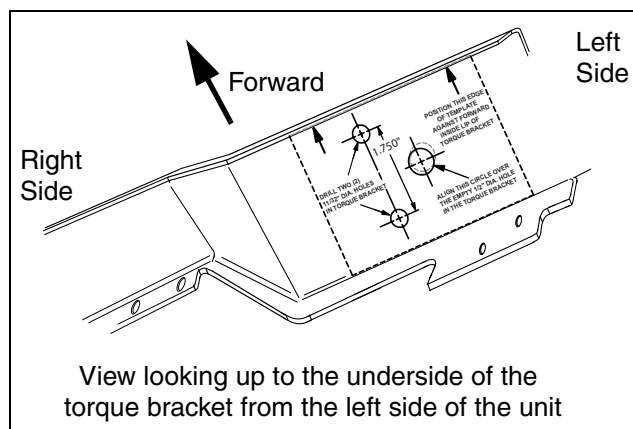

FIGURE 3
9. Refer to Figure 3. From the left underside of the unit locate the torque bracket.
10. Locate the empty 1/2" diameter hole in the lower level of the torque bracket. See Figure 3.